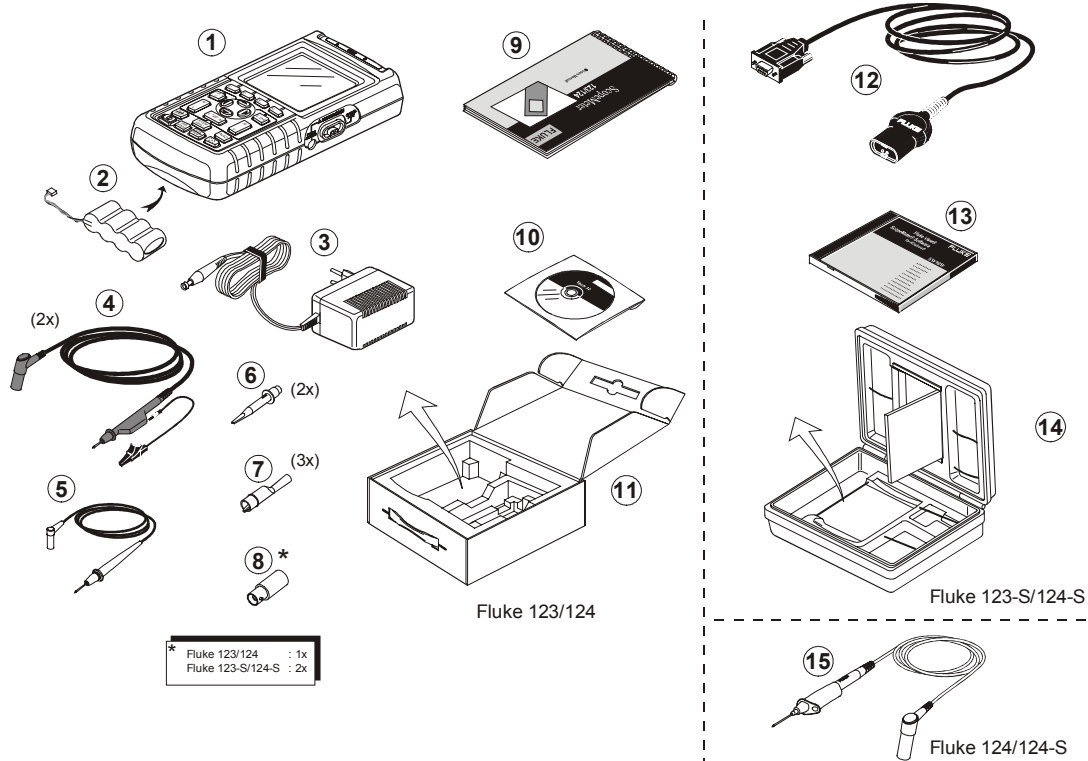

Figure 1. ScopeMeter Test Tool Kit
The following items are included in your test tool kit. (see Figure 1.):
- Do not connect the ground wire (Figure 1, item 5) to voltages higher than 42 V peak (30 Vrms) from earth ground.